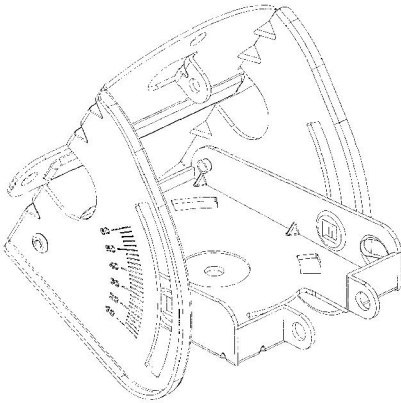

Figure 20
Step 1: The *Elevation Assembly* consists of the Azimuth Base and Elevation Bracket. These parts are pre-joined at the pivot point (**fig 20**). Ensure that the Azimuth base is free moving around the pivot point.